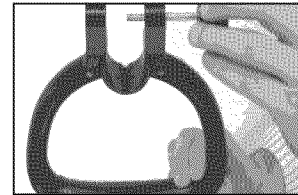

Figure 10 - Removing knob and bolt from handle
1. Remove the knob and bolt from front handle (see Figure 10).